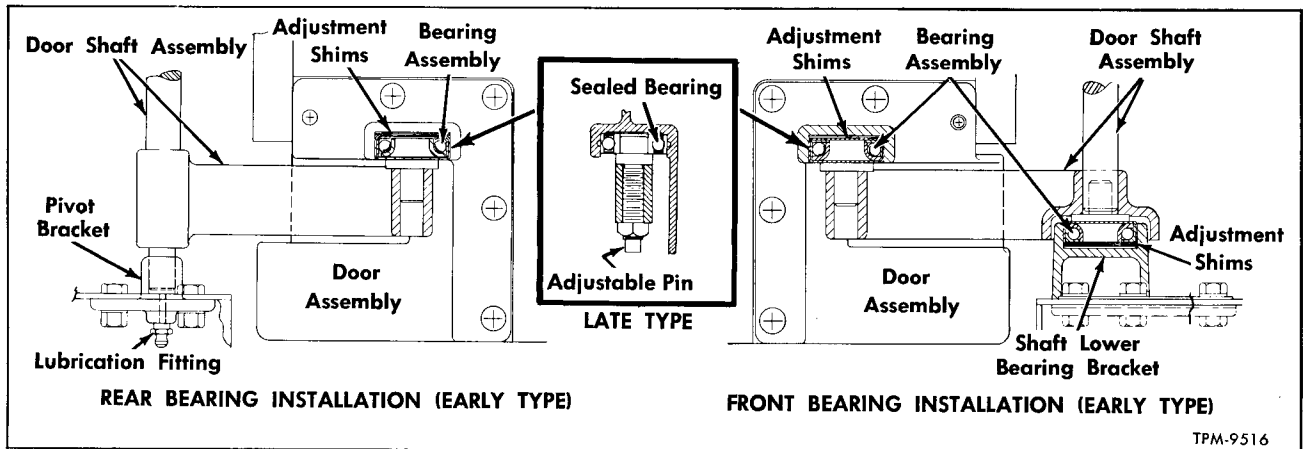

Figure 9—Front Door Lower Pivot Bearings Installed
5. Height of door halves in coach opening is adjustable (fig. 9). On early type, shims are provided at locations shown; on latest type a threaded adjustable pin is used at locations indicated.